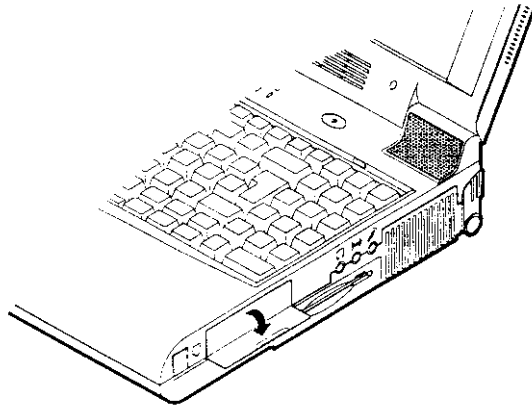

Figure 2-16
1. Open the access door (Figure 2-16).